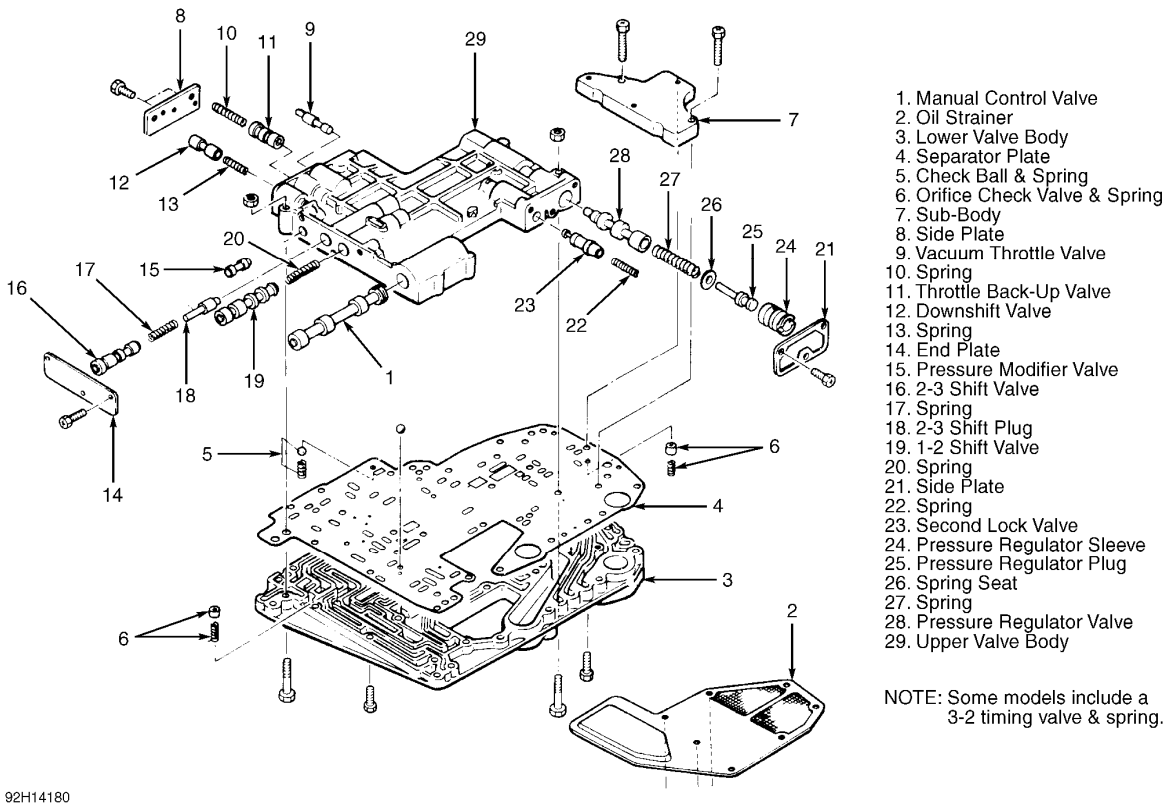

Fig. 22: Exploded View Of Valve Body Assembly
1. Remove manual control valve. Remove oil strainer retaining bolts and oil strainer. Remove upper-to-lower valve body retaining bolts. Separate valve bodies, separator plate and sub-body. **DO NOT** lose check balls and springs or orifice valve and spring. See Fig. 22 .
2. Remove, clean and install each valve individually as needed. See Fig. 22 . Lubricate moving parts with ATF. Ensure all valves move (snap) freely. If valve sticks in its bore and cannot be freed, valve body must be replaced. **DO NOT** attempt to hone valve bores or polish valves.